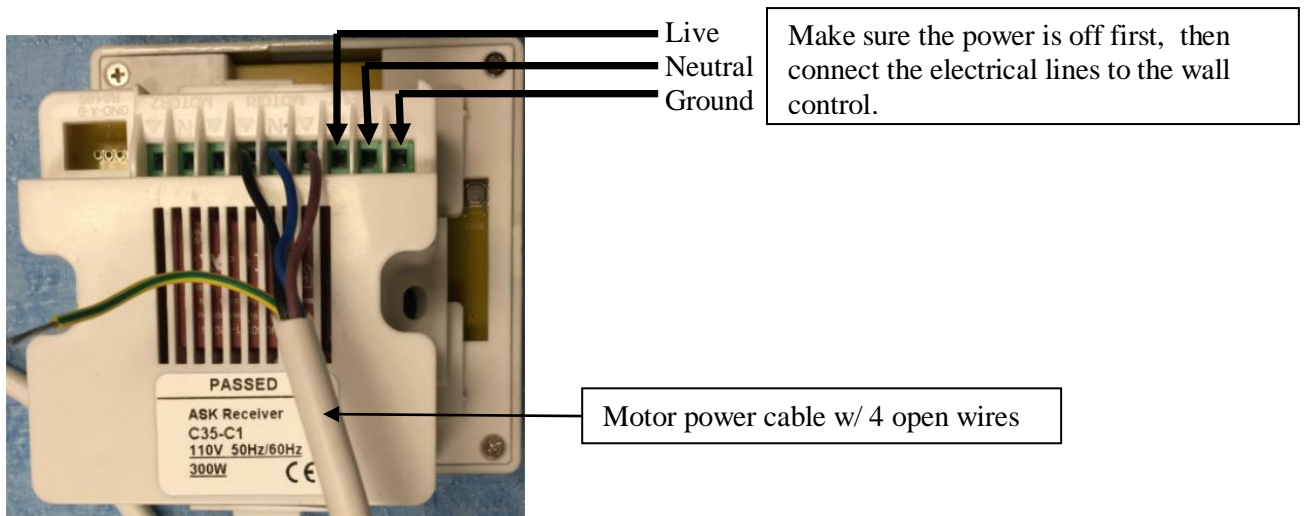

Fig 1 - 1 motor/wall switch wiring diagram
- Connect the motor to the C35-1 Wall Switch as Fig 1 shows.